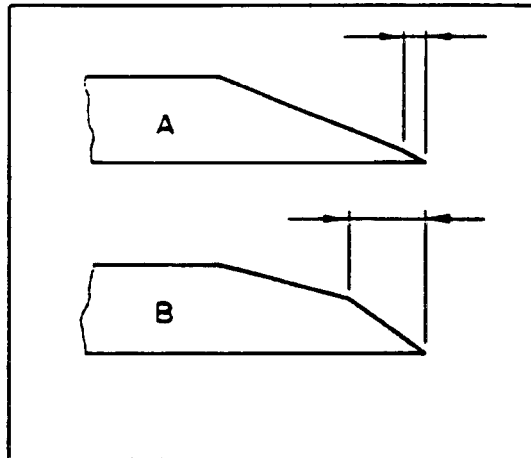

FIG. 15
- (d) Identify which chisel in Figure 15 is correctly sharpened, and state ONE reason for your answer.